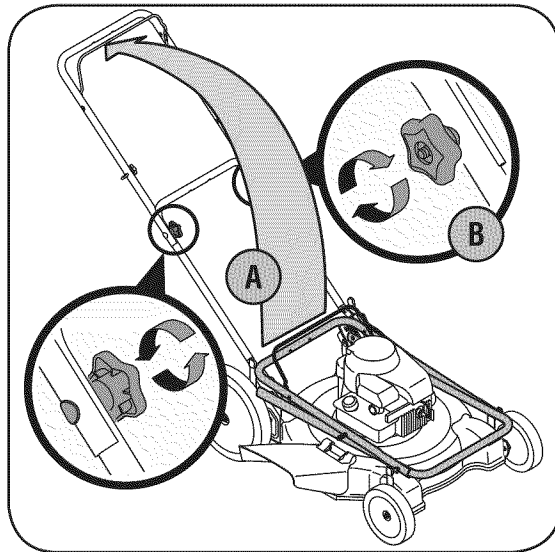

Figure 3-2
- a. Lift the upper handle up from the folded position to the extended position following the arrow in Figure 3-2. The handle should click into this position.